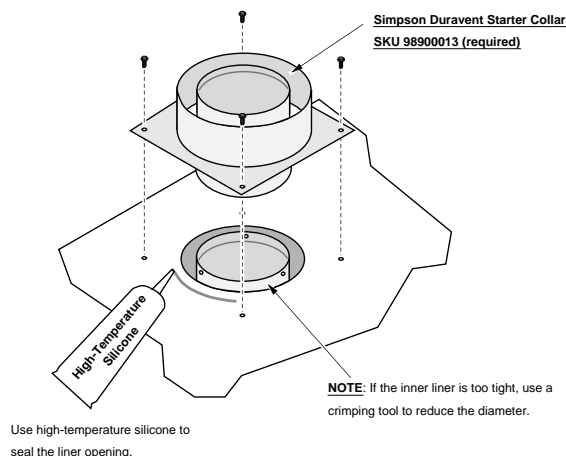
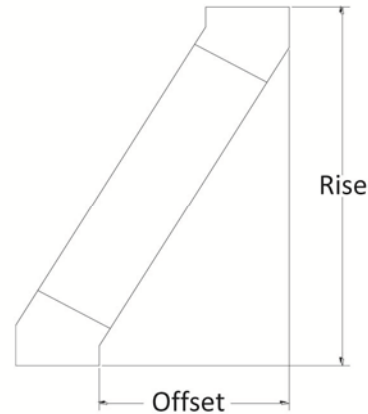

Figure 18
Figure 19
- Simpson Duravent chimney requires a starter collar. Attach the starter collar to the top of the fireplace with four sheet-metal screws (see Figure 18). If the inner pipe is too tight, use a crimping tool to adjust pipe diameter (see Figure 19). Seal the outer sections of pipe with high-temperature silicone.